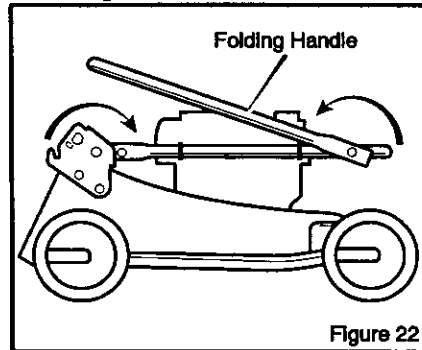

Figure 22
1. Loosen the fasteners that hold the upper part of the handle to the lower part of the handle. As you fold the handle, make sure the cables are not around the loose fasteners and do not become damaged. Rotate the upper part of the handle back (Figure 22).